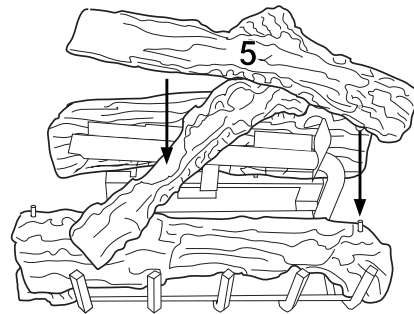

Figure 44 - Installing Log No. 5
5. Place log #5 (top log) onto right pin of front log (#2) and the smooth surface of crossover log (#4) as shown in Figure 44. Make sure it is seated properly.